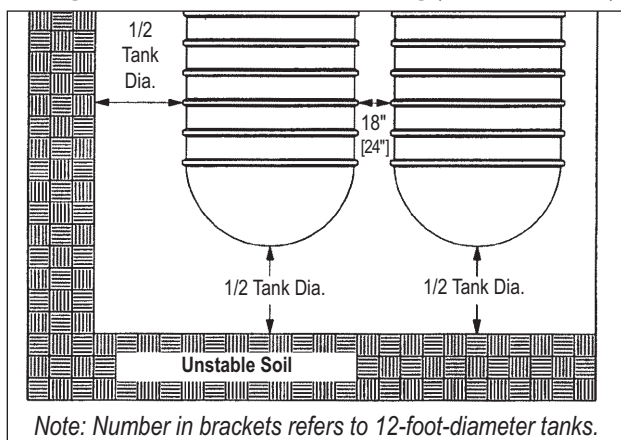

FIGURE 5-5
5.3.3.1. If the soil has less than 750 lbs./sq. ft. cohesion as calculated from an unconfined compression test; or in soils having an ultimate bearing capacity of less than 3,500 lbs./sq. ft.; or where soil will not maintain a vertical wall, the excavation must allow a minimum space equal to half the diameter of the tank between the excavation wall and both the side and the endcap of the tank to enhance lateral resistance. (See FIGURE 5-5.)
5.3.3.2. The spacing between adjacent tanks is to be at least 18 inches [24 inches for 12-foot-diameter tanks]. (See FIGURE 5-5.)